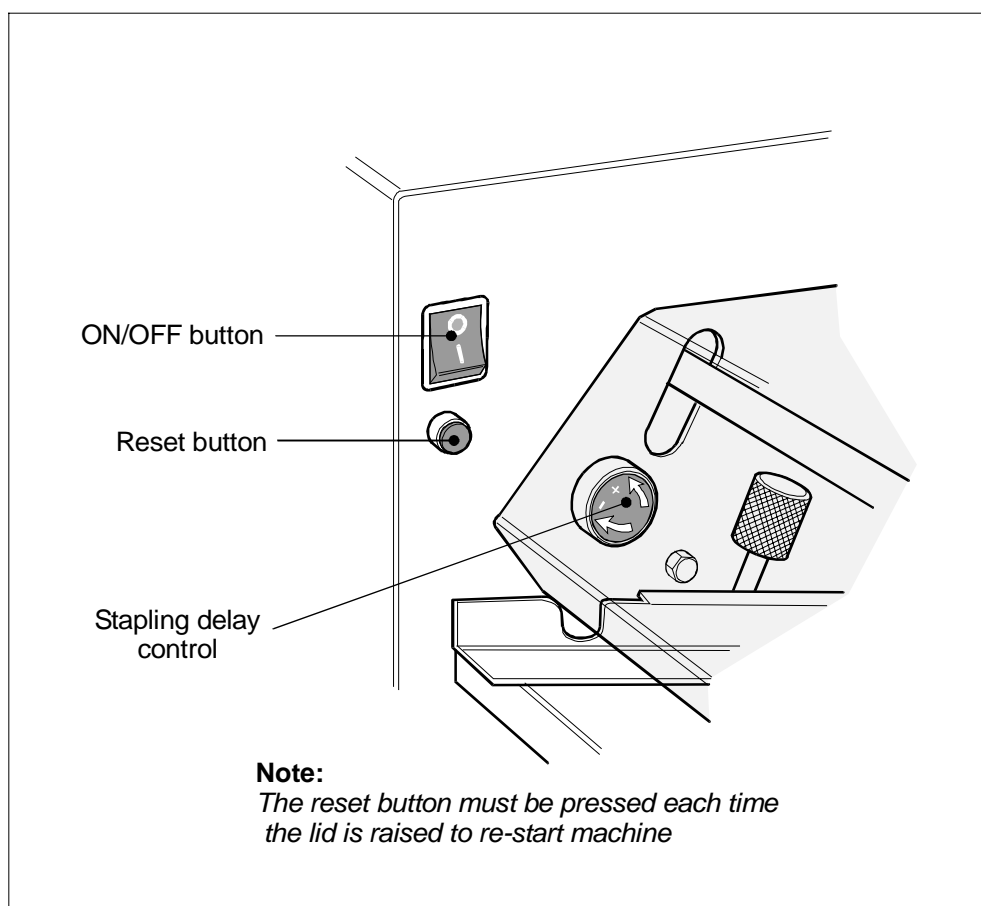

Figure 8 - Operating controls
- The stapling / folding operation is started when sensors detect the paper in the machine. The time between the paper entering the machine and the stapling action can be varied. This is achieved by turning the Stapling Delay Control shown in figure 8 clockwise for more time and anti-clockwise for less. When first using the machine, give the Stapling Delay Control a quarter turn clockwise. This will give time for the operator to settle the paper between the guides before the machine cycles.